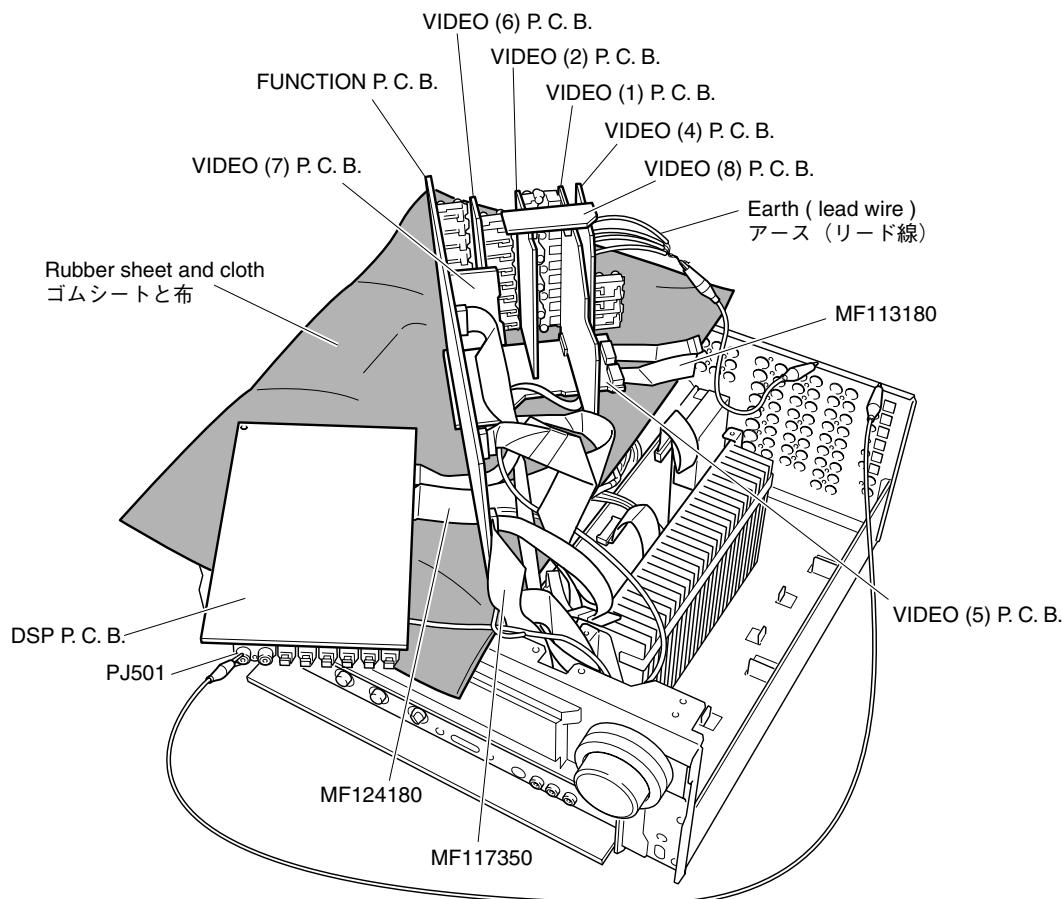

Fig. 4
- Remove VIDEO (1), (2), (4) ~ (8) and FUNCTION P.C.B.s. (Fig. 4)
- Put the rubber sheet and a cloth over the equipment. Then place the P.C.B. upside down on the cloth and check it. (Fig. 4)
- Reconnect all the disconnected cables (connectors) except the one between the tuner and CB582 of the VIDEO (5) P.C.B. (The tuner is included in U and A models only.)
- VIDEO (1)、(2)、(4)～(8)、FUNCTION P.C.B.を取り外します。(Fig. 4)
- 本機の上にゴムシートと布を敷き、その上にP.C.B.を裏返しに置いてチェックします。(Fig. 4)